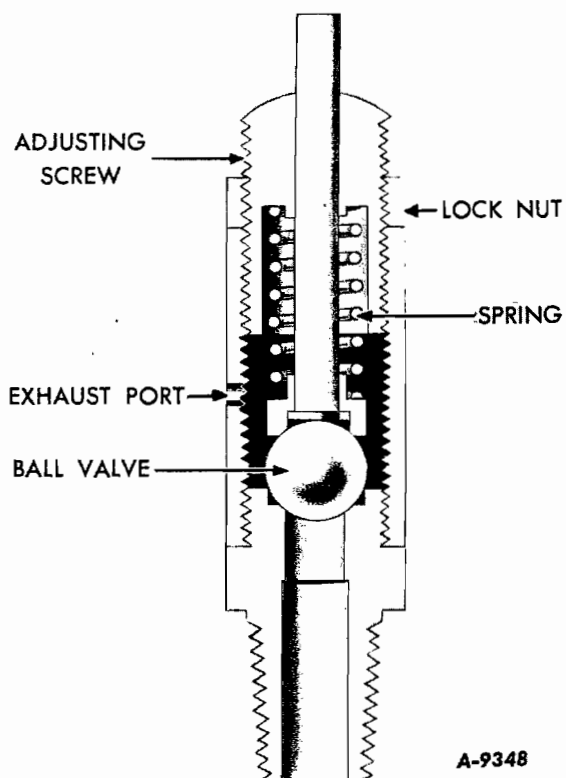

Fig. 10 - Sectional View Of Safety Valve.
2. The safety valve consists of a spring-loaded ball check valve which is set to "blow off" at 150 pounds air pressure. (Fig. 10).